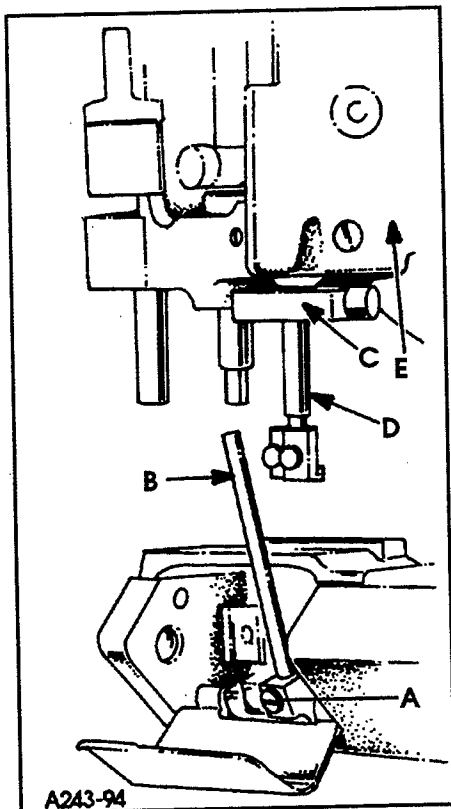
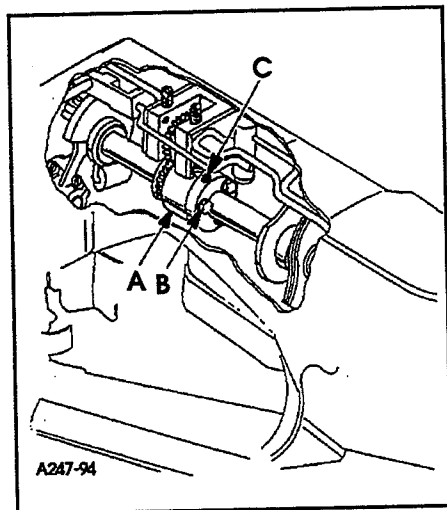

FIG. 2
FIG. 3
To synchronize the machine, remove the needles, presser foot, throat plate, feed dogs and upper feed roller mechanism. Rotate handwheel in the operating direction until the needle bar is at the bottom of its stroke and just begins its upward travel. Loosen screw (A, Fig. 2) and remove the looper for the left hand needle from the looper holder. Insert a straight steel rod (B) 5/32" (3.9mm) or 11/64" (4.3mm) diameter by 2-1/2" (63.5mm) long into looper holder and retighten screw (A). It may be necessary to reposition the looper holder so that the rod (B) will be in a vertical position when at its farthest travel to the right. Rotate the handwheel until the rod is at extreme left, reinstall the throat plate. Turn the handwheel in the operating direction, with needle bar rising until rod (B) comes in contact with the edge of the throat plate. At this point, clamp Union Special timing gauge No. 21225H (C) around the needle bar (D), flush against the underside of the machine casting (E). Rotate handwheel in the opposite direction until either the gauge contacts the machine casting on the up stroke of the needle bar or the rod contacts the edge of the throat plate. Maximum allowable clearance between gauge and casting or rod and throat plate is .005" (0.1mm)
Both ends of the adjustable split coupling are secured to the crankshaft and main shaft by spot screws and set screws. On the main shaft end of the coupling (A, Fig. 3) three screws (B) thread horizontally through the coupling. The holes in the main shaft end of the coupling are larger than the diameter of the screws, permitting several degrees of rotation in either direction to properly synchronize the needle and looper. Loosen the three horizontal clamp screws (B, Fig. 3). With rod (B, Fig. 2) at its farthest position to the left, snug the uppermost horizontal clamp screw enough to hold coupling (A, Fig. 3) in position. If the handwheel is turned in reverse of operating direction and gauge (C, Fig. 2) on needle bar (D) contacts the machine casting (E) before rod (B) contacts the edge of the throat plate, loosen horizontal clamp screw (B, Fig. 3) which was snug, while holding the coupling in place with an Allen wrench in set screw (C). Rotate the handwheel slightly in reverse of operating direction, snug the uppermost horizontal clamp screw (B), recheck synchronization. If the handwheel is turned in reverse of operating direction and the rod contacts the edge of the throat plate before the clamp gauge contacts the machine casting, adjust as before, except turn the handwheel slightly in the operating direction. Use shim stock to insure no more than .005" (0.1mm) exists between gauge and casting or between rod and throat plate, in both the operating and reverse directions of the handwheel. When this setting has been made, tighten the three horizontal clamp screws (B, Fig. 3) securely, and recheck both clearance points with .005" (0.1mm) shim gauge to assure no slippage occurred while tightening the screws.